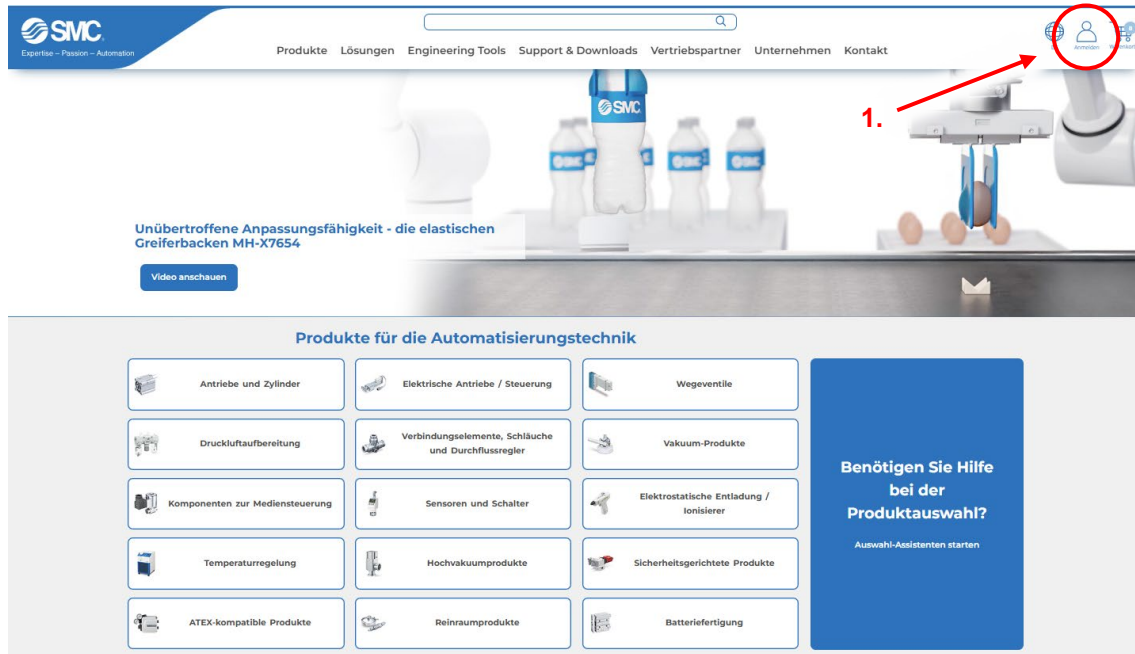

Figure 1
1. Register on the SMC website (Figure 1).